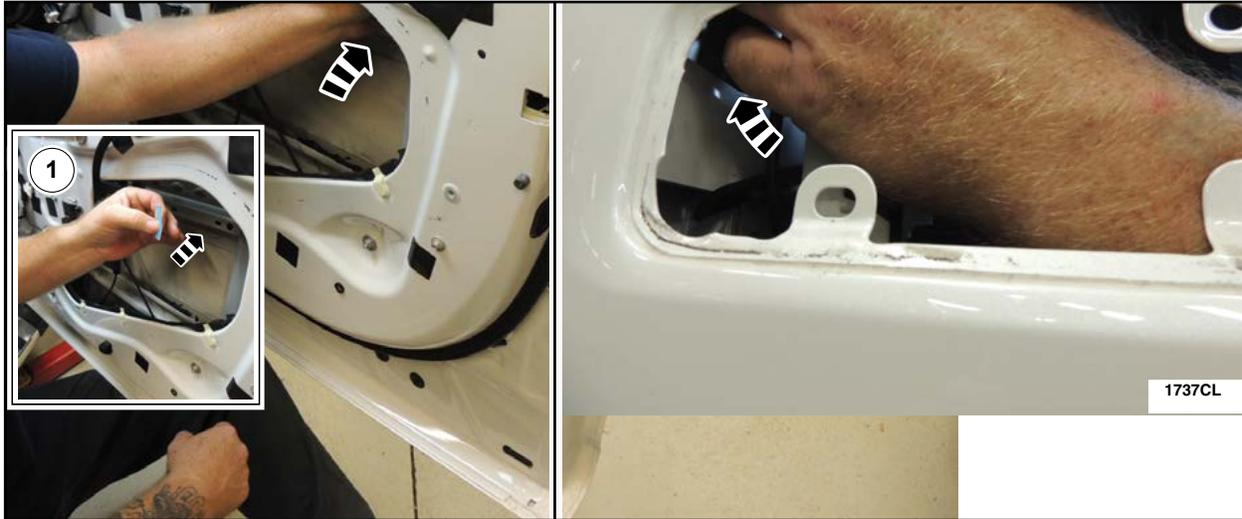
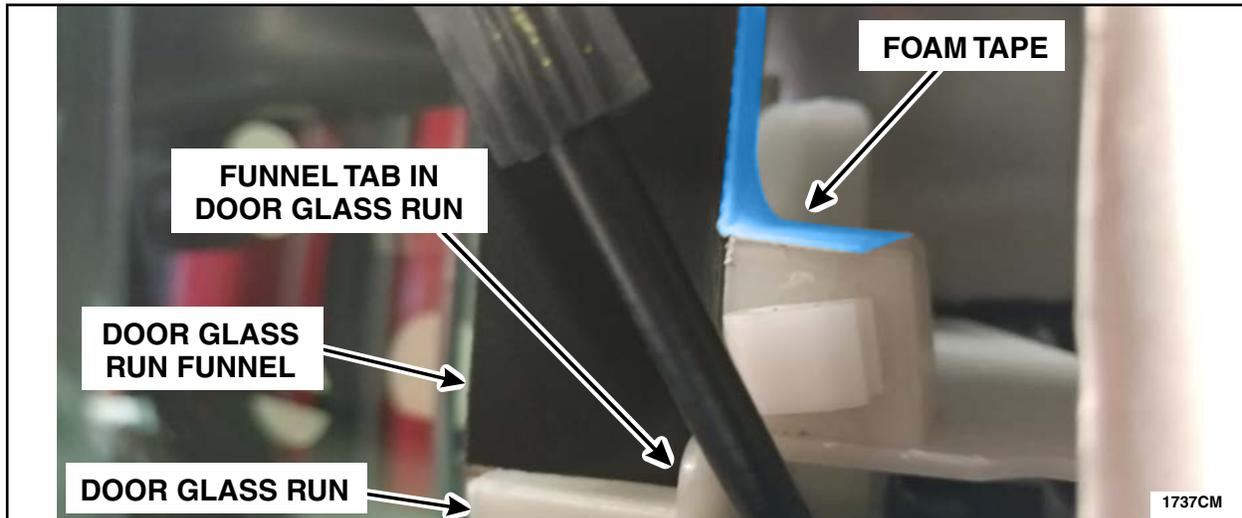

FIGURE 28
FIGURE 29
20. Using your hand install the Foam Tape on the top of the door glass run and on the back of the door glass run funnel in the order shown in Figure 28. Figure 29 shows the Foam Tape installed.